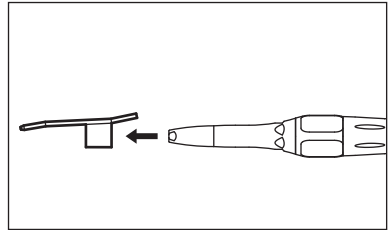

Fig. 9
- 5) Remove the irrigation tube from the irrigation nozzle and remove moisture with a dry cloth. Then remove the irrigation nozzle from the handpiece. (Fig. 9)